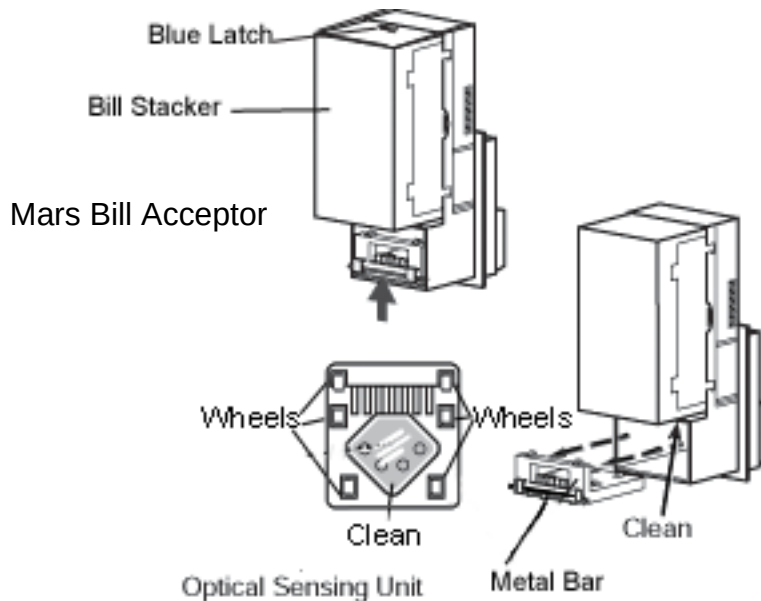

Figure 53. Bill Acceptor Components
6. Lift up the metal bar at the back of the cash acceptor. Pull the bar back to remove the optical sensing unit and to expose the cash acceptor bill path. Figure 53 shows the bill acceptor components.